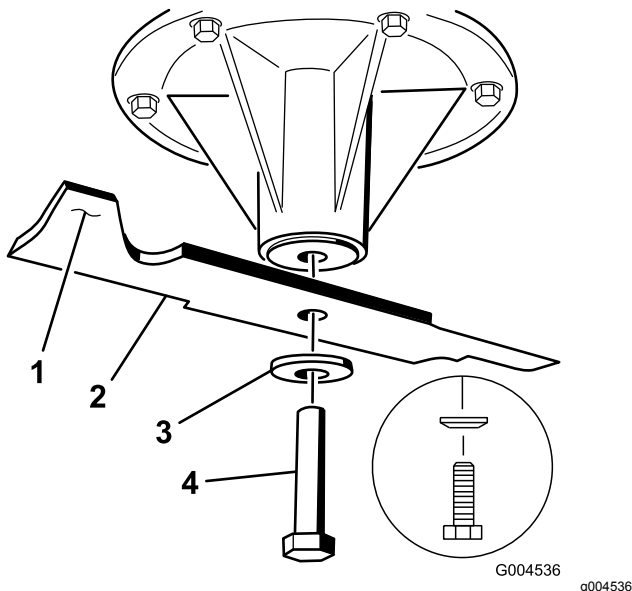

Figure 103
- Install the blade onto the spindle shaft (Figure 103).
- Install the spring disk and blade bolt (Figure 103).